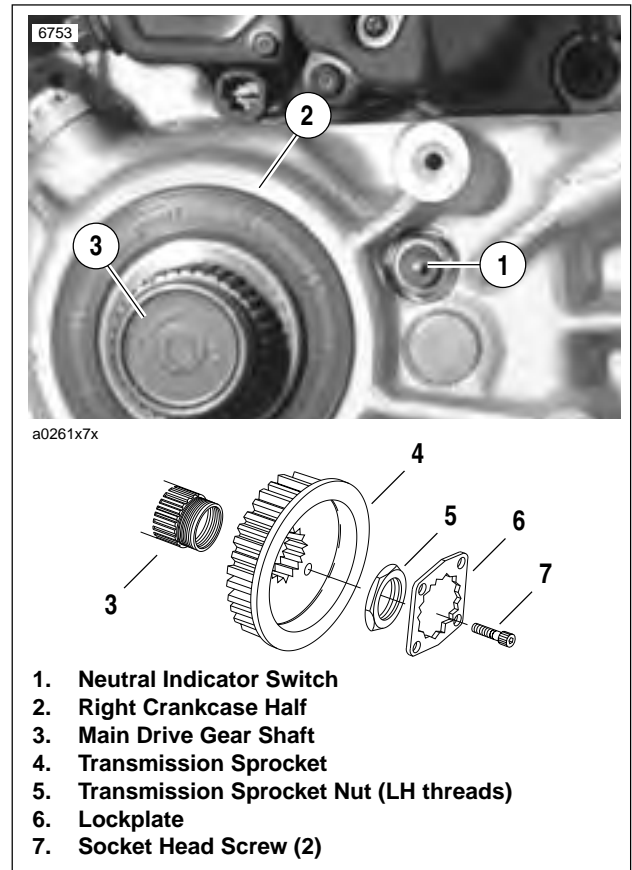

Figure 7-80. Neutral Indicator Switch
See Figure 7-80. The neutral indicator switch (1) is threaded into the transmission portion of the right crankcase half (2); it is immediately forward of the main drive gear shaft (3). The sprocket cover must be removed to test the switch. If switch requires replacement, secondary drive belt and transmission sprocket must also be removed; there is not enough clearance to allow the removal of the switch without first removing the transmission sprocket.
3. See Figure 7-80. Place transmission in first gear. Remove two socket head screws (7) and lockplate (6).